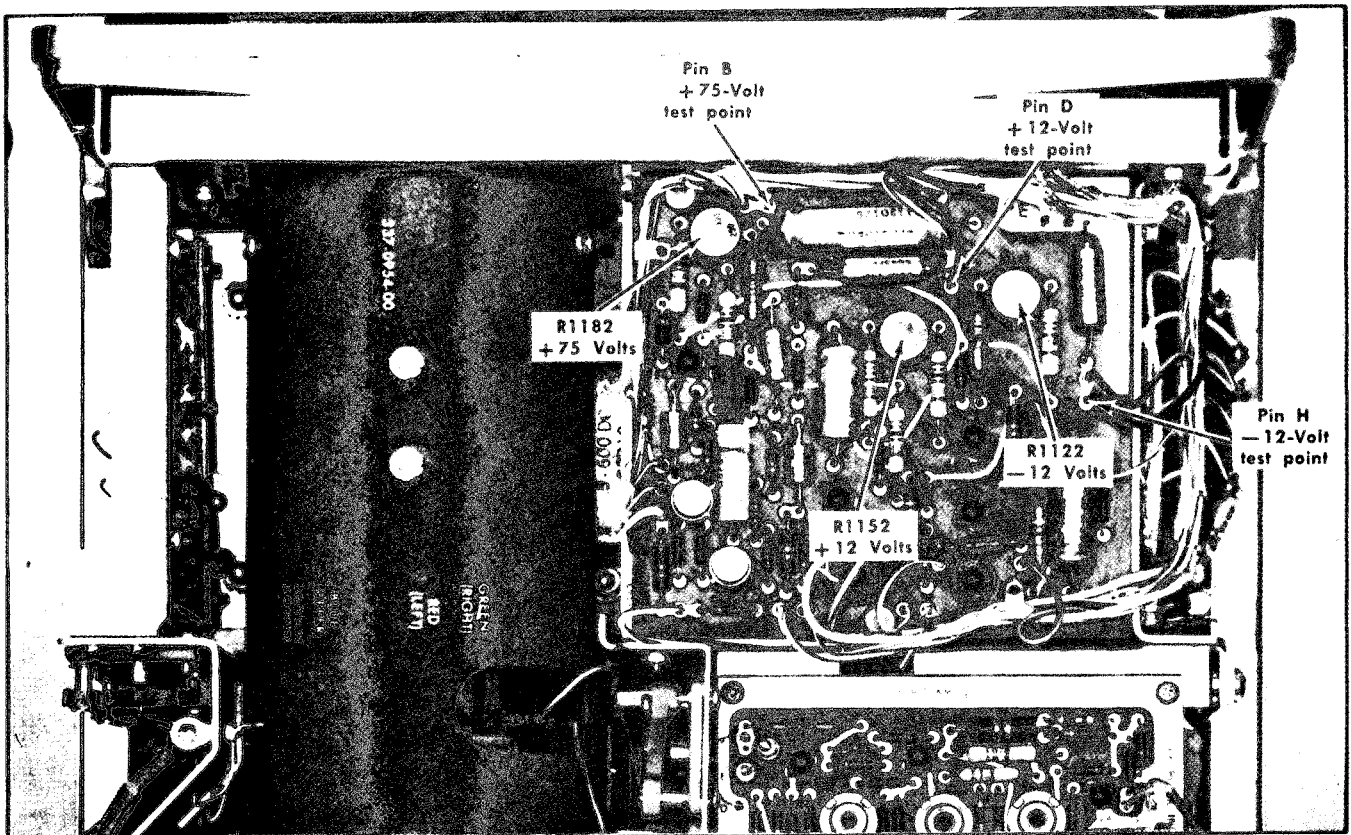

Fig. 6-4. Low-voltage power supply test points and adjustments (Low-Voltage Regulator circuit board).
- d. ADJUST- +12 Volts adjustment, R1152 (see Fig. 6-4), for a +1 volt meter reading.
- h. Connect the precision DC voltmeter from the +12-volt test point (pin connector 'D', Low-Voltage Regulator board; see Fig. 6-4) to chassis ground.
- a. Connect the precision DC voltmeter from the +75-volt test point (pin connector 'B', Low-Voltage Regulator circuit board; see Fig. 6-4) to chassis ground.
- c. ADJUST- +75 Volts adjustment, R1182 (see Fig. 6-4), for +75 volts.